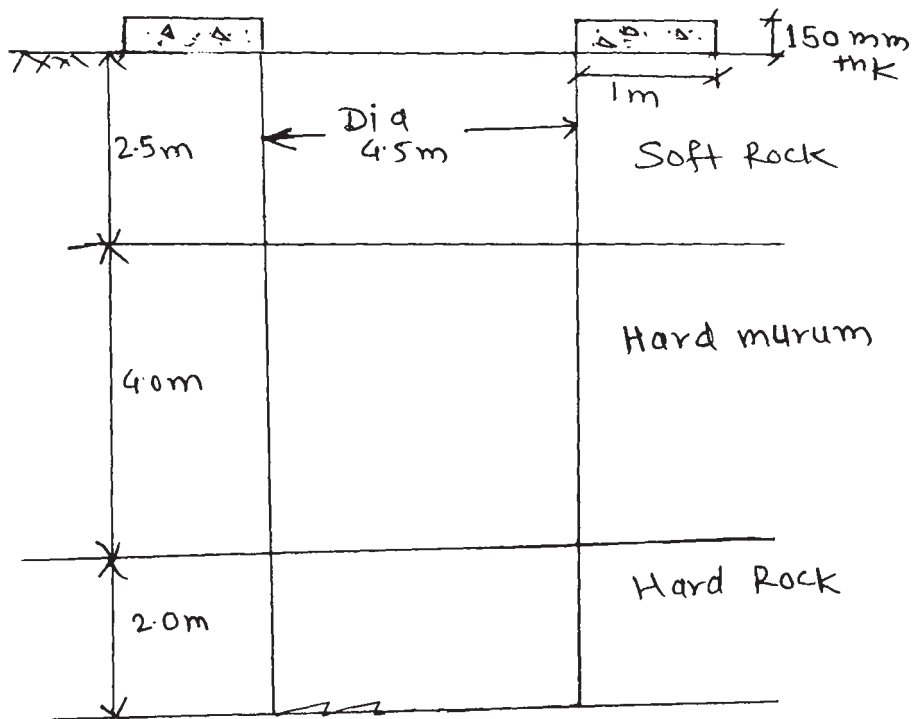

Fig. No. 2
- Find quantity of earth work in excavation and cement concrete for circular community well (Refer Figure No. 2)